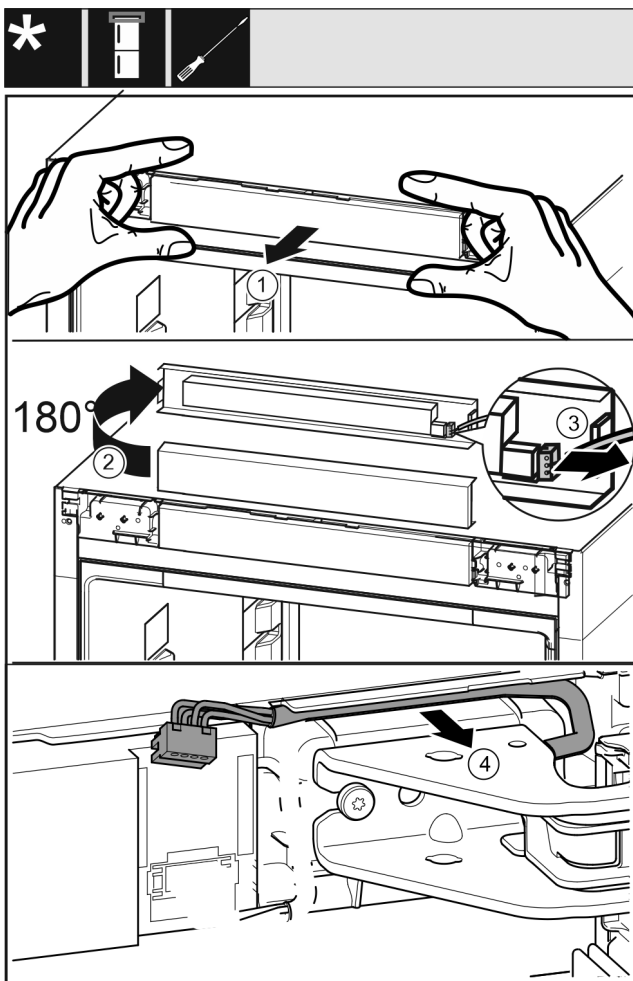

Fig. 21
- Carefully release the control panel trim Fig. 21 (1) forwards.
- Turn the control panel trim Fig. 21 (2) upwards by 180°.
- Push the locking tab Fig. 21 (3) backwards and remove the plug carefully.
- Release the cable over the swap bearing block Fig. 21 (4) from the guide carefully.